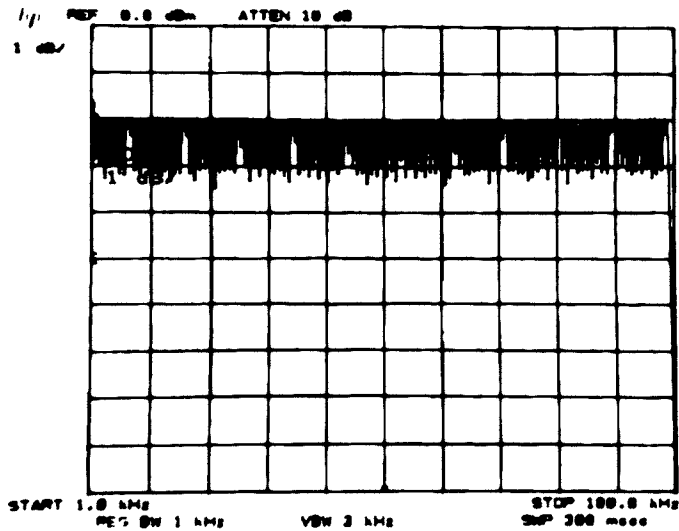

Figure 2-15.
11. Press TRACE A **(MAX HOLD)**. Press MODULATION SWP on the function generator. When function generator completes one sweep, press TRACE A **(VIEW)**. Trace should appear as in Figure 2-15.